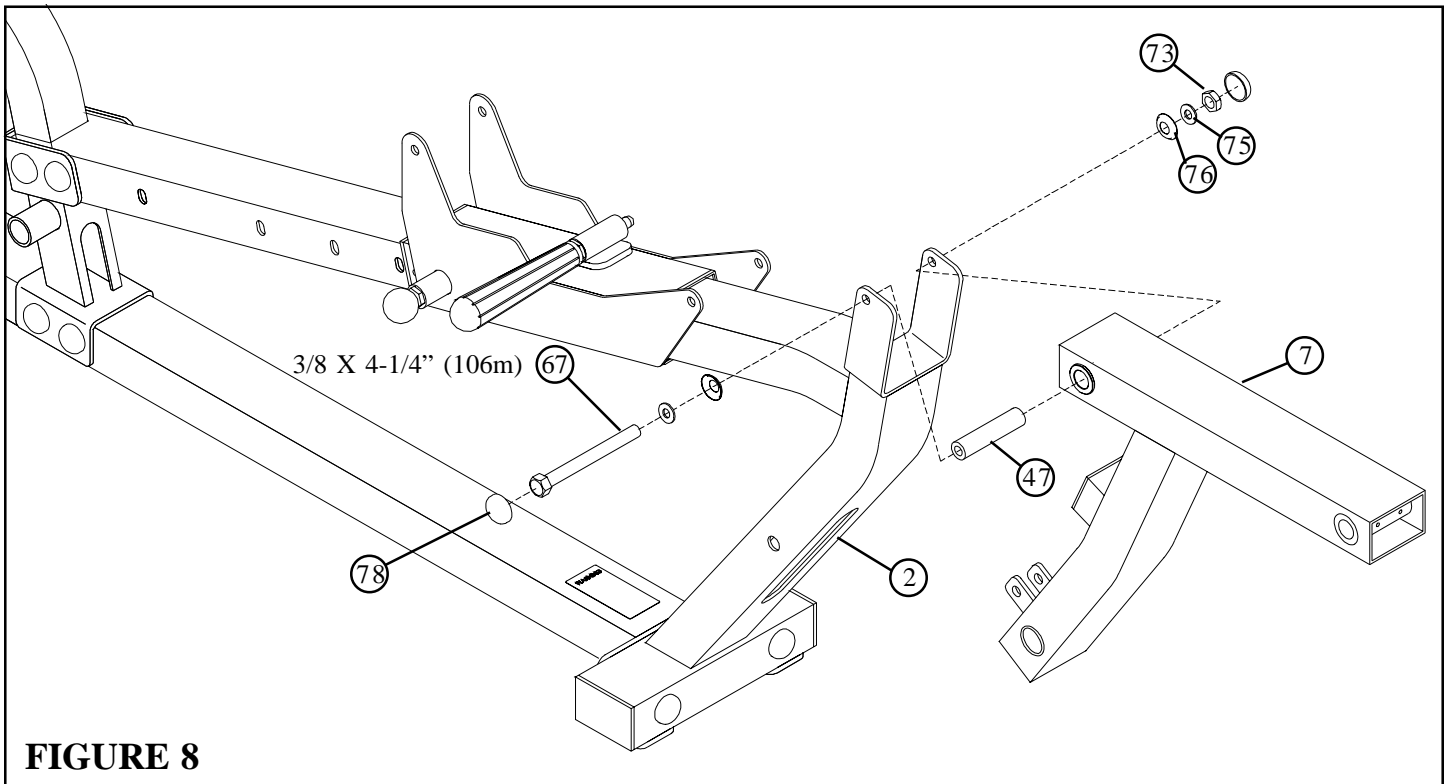

FIGURE 8
- Insert one 3-5/16" PIVOT SHAFT (47) into the PEDESTAL (7) as shown in FIGURE 8.
- **SECURELY** assemble the PEDESTAL (7) to the BENCH FRAME (2) using two RH CAPS (78), one 3/8 X 4-1/4" BOLT (67), two 3/8" SAE WASHERS (75), two 3/8" RH WASHERS (76) and one 3/8" LOW HEIGHT LOCK NUT (73) as shown in FIGURE 8.